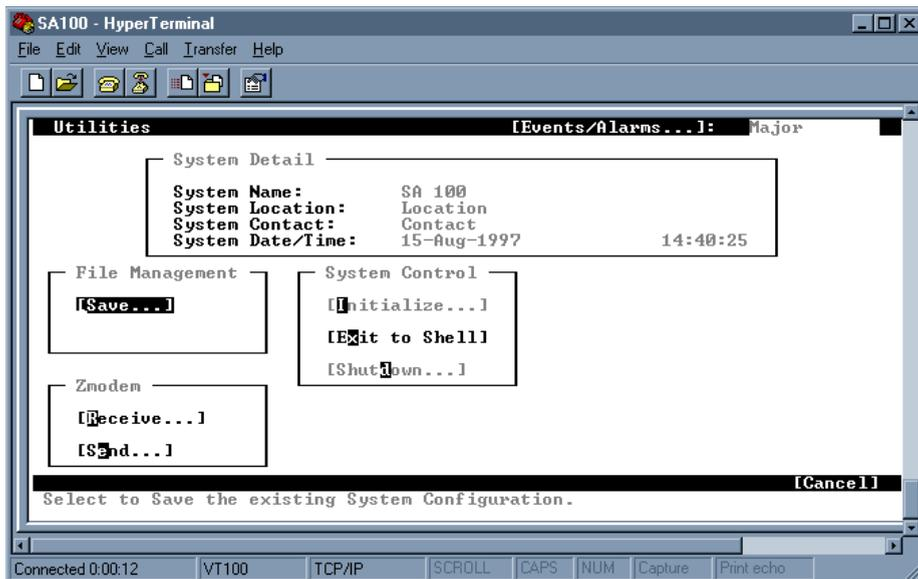

Figure A-3. Craft Interface Utilities Window
2. When the Utilities window appears (see Figure A-3), choose the Receive button in the Zmodem frame of that window.
1. Choose the Utilities button from the Main menu of the craft interface. The Utilities window appears (see Figure A-3).